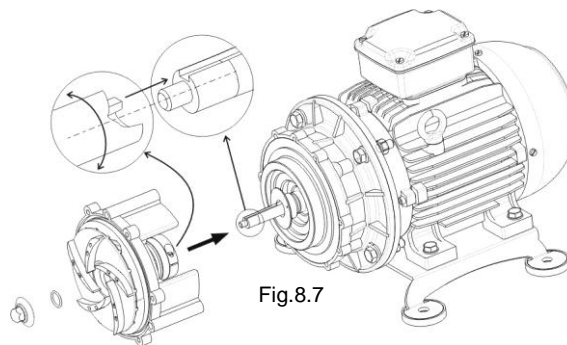

Fig.8.7
- **WARNING !** Rotate the impeller until the correct assembly position is found and lock the group with the ogive (pos. 7 – locking torque 24 Nm) (fig. 8.7)